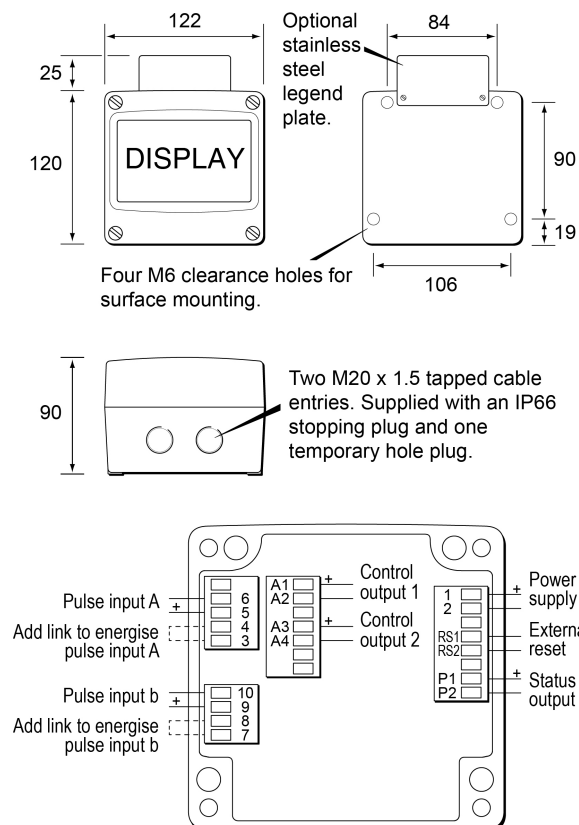

Fig 6 Dimensions and terminal connections
Field wiring terminals are located on the rear of the Timer or Clock assembly as shown in Fig 6.
- D. Feed the field wiring through the cable entry in the back-box and connect it to the instrument terminals as shown in Fig 6. Replace the instrument assembly on the back-box and evenly tighten the four 'A' screws.
The BA574G can also be supplied with a blank or custom laser engraved stainless steel legend plate - see Fig 6. The plate, which after installation is visible from the front of the instrument, is supplied loose with two fixing screws for securing it to the rear of the instrument's back-box. This plate can typically accommodate: